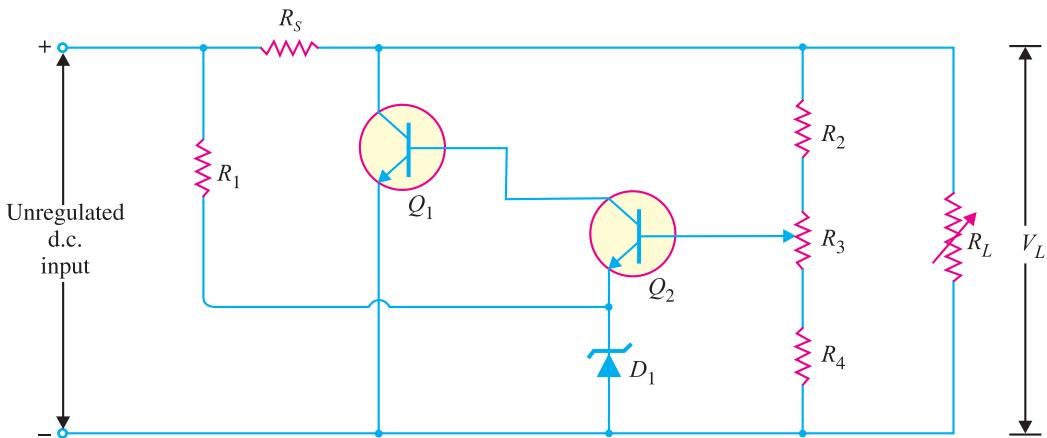

Fig. 17.21
**Circuit details.** Fig. 17.21 shows the various parts of a shunt feedback voltage regulator. This circuit uses an error detector ( $Q_2$ ) to control the conduction of a \*shunt transistor ( $Q_1$ ). The error detector ( $Q_2$ ) receives two inputs : a *reference voltage* and a *sample voltage*. The sample circuit is a simple voltage divider circuit ( $R_2 - R_3 - R_4$ ) and derives the sample voltage from the regulated output voltage. The reference circuit is made up of zener  $D_1$  and  $R_1$  and derives the reference voltage from the unregulated d.c. input voltage. The outputs from the sample and reference circuits are applied to the error detector ( $Q_2$ ). The output from  $Q_2$  is used to control the conduction of the shunt transistor  $Q_1$ . Since  $Q_1$  (shunt transistor) is in parallel with load  $R_L$ , the change in the current conduction through  $Q_1$  can control the load voltage.